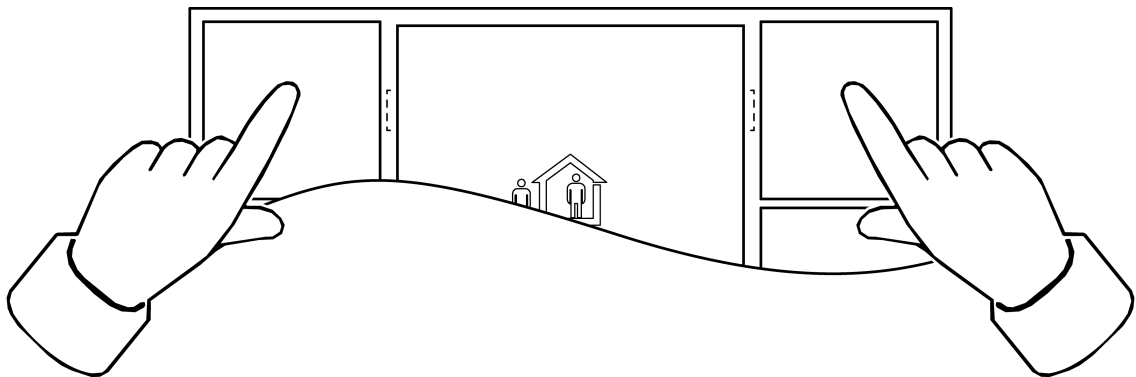

Figure 1: Opening or exiting a menu
- Switching to the menu: Press the top two buttons simultaneously (figure 1).